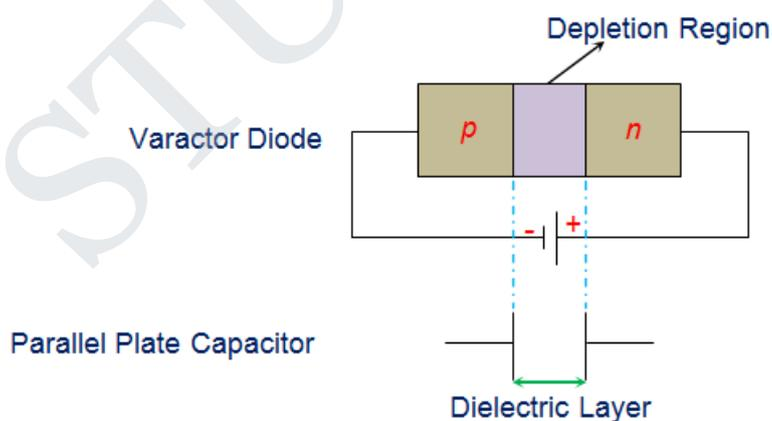

Figure 1 Varactor Diode Analogous to a Parallel Plate Capacitor
- Under such condition, the p-n junction can be considered to be analogous to a capacitor (Figure 1) where the p and n layers represent the two plates of the capacitor while the depletion region acts as a dielectric separating them.